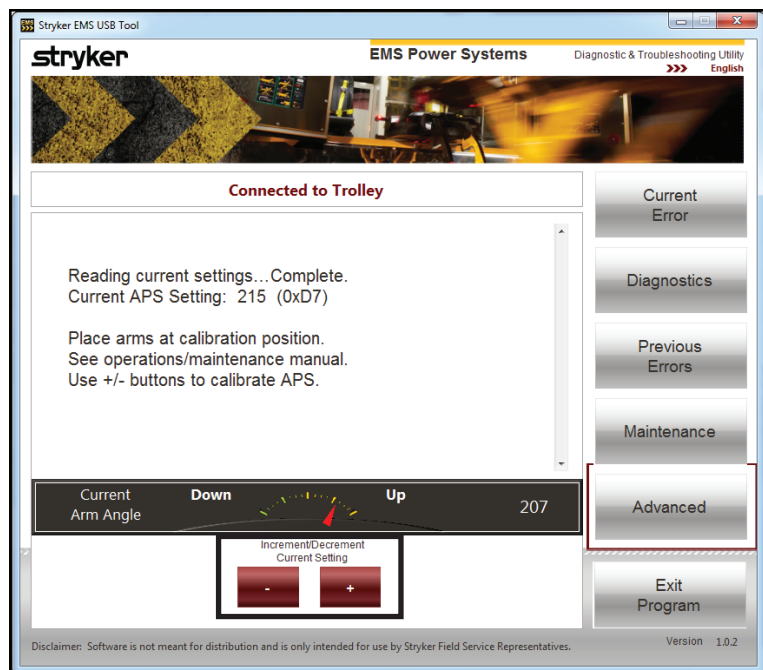

Figure 3
- If the measurement is more than 2 in, click **Decrement (-)** on the **Connected to Trolley** calibration screen (Figure 3).
- If the measurement is less than 2 in, click **Increment (+)** on the **Connected to Trolley** calibration screen (Figure 3).